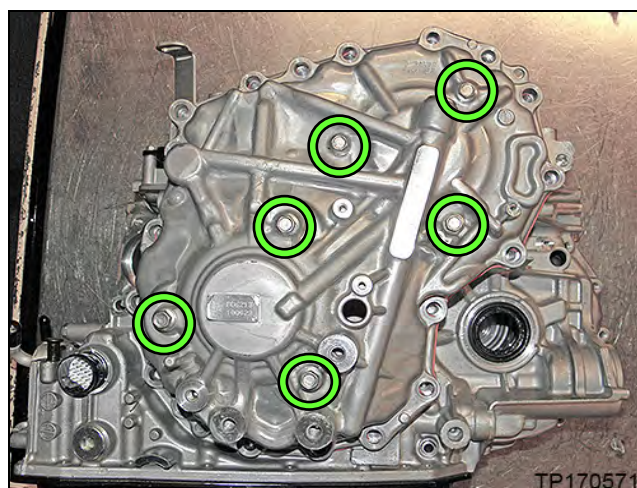

Figure 7E
- c. Install the Lifting Fixture to the CVT case at the six (6) bolt holes shown in Figure 7E on page 35.
- d. Tighten the two (2) joint to triangle brackets.